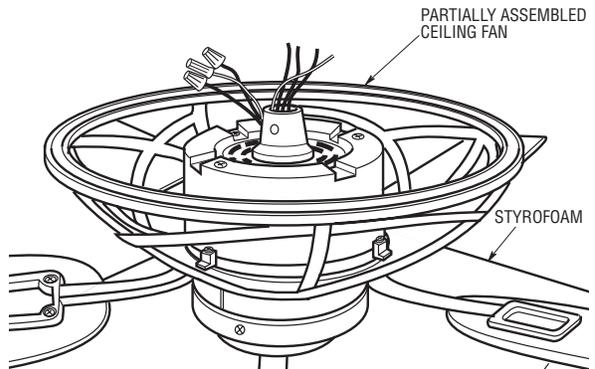

Figure 6
- 12. Carefully turn over the partially assembled ceiling fan and place it onto the flat surface of the styrofoam (Figure 6).